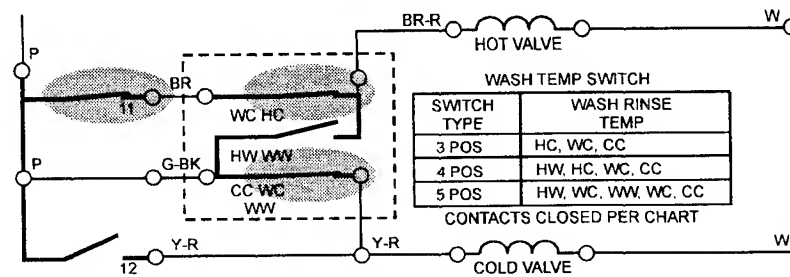
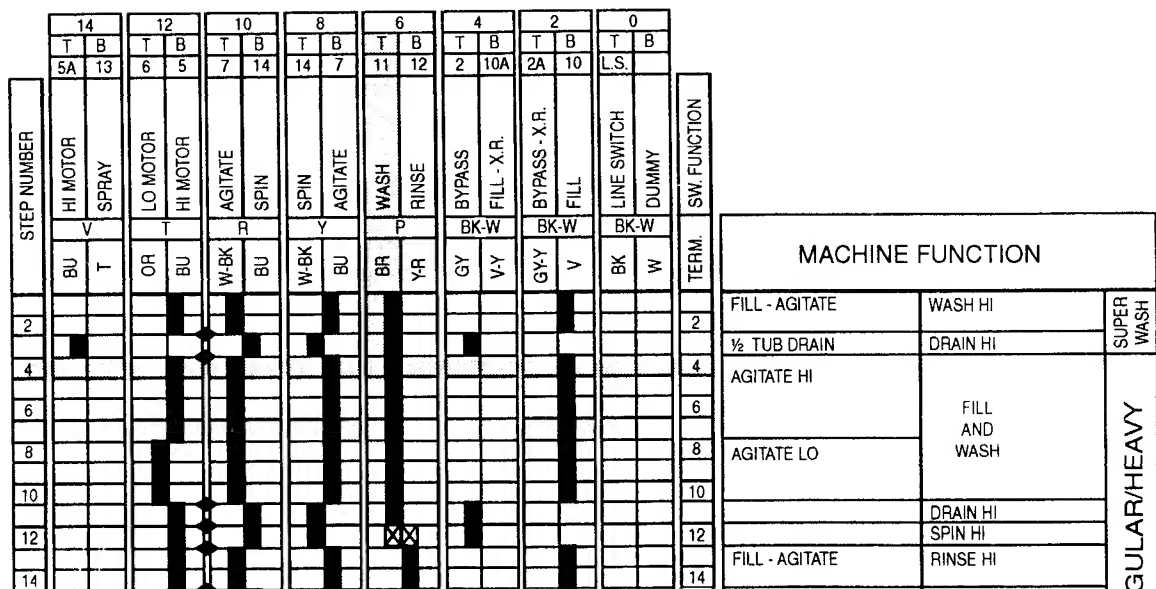

Fig. 21
Fig. 22
5. The water temperature is selected by several switches that are set for mixing hot and cold water during the fill. Selecting a WARM wash with a COLD rinse closes these switches. (Fig. 21) The cycle sequence chart shows us that timer contact 11 is closed during the wash cycle. (Fig. 22)
5. In *Figure 22* (page 8), what contacts are closed for increment #8 (Agitate Lo)? What function did that change from increment #7?